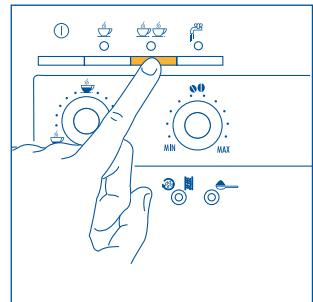

Fig. 13
- 5) Press the  button (Fig. 12) to make one cup of coffee or the  button (Fig. 13) to make 2 coffees. At this point the machine grinds the beans, runs a short pre-infusion cycle, a pause and then completes the delivery. Once the desired quantity has been reached, the machine automatically stops delivering the coffee and discharges the grounds into the coffee grounds container.
NOTE 4: while the machine is making the coffee, the delivery can be stopped at any time by pressing the  button (Fig. 12) or  button (Fig. 13), as previously selected.
NOTE 5: as soon as delivery is complete, to increase the quantity of coffee, simply press and hold the  button (Fig. 12) or  button (Fig. 13), as previously selected, until the desired quantity is reached (this operation must be performed within 3 seconds from when coffee delivery from the spouts ceases).